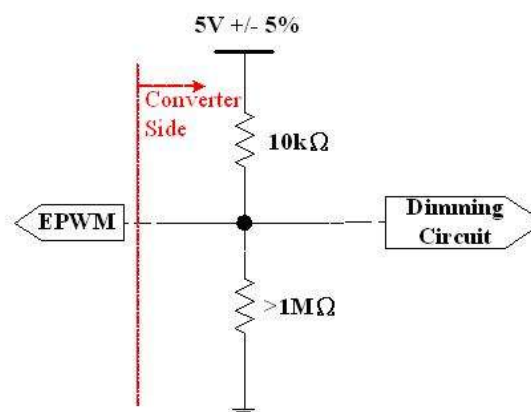

Fig. 3
Note (5) The EPWM interface that inserts a pull up resistor to 5V in Max Duty (100%), please refers to Fig.3.